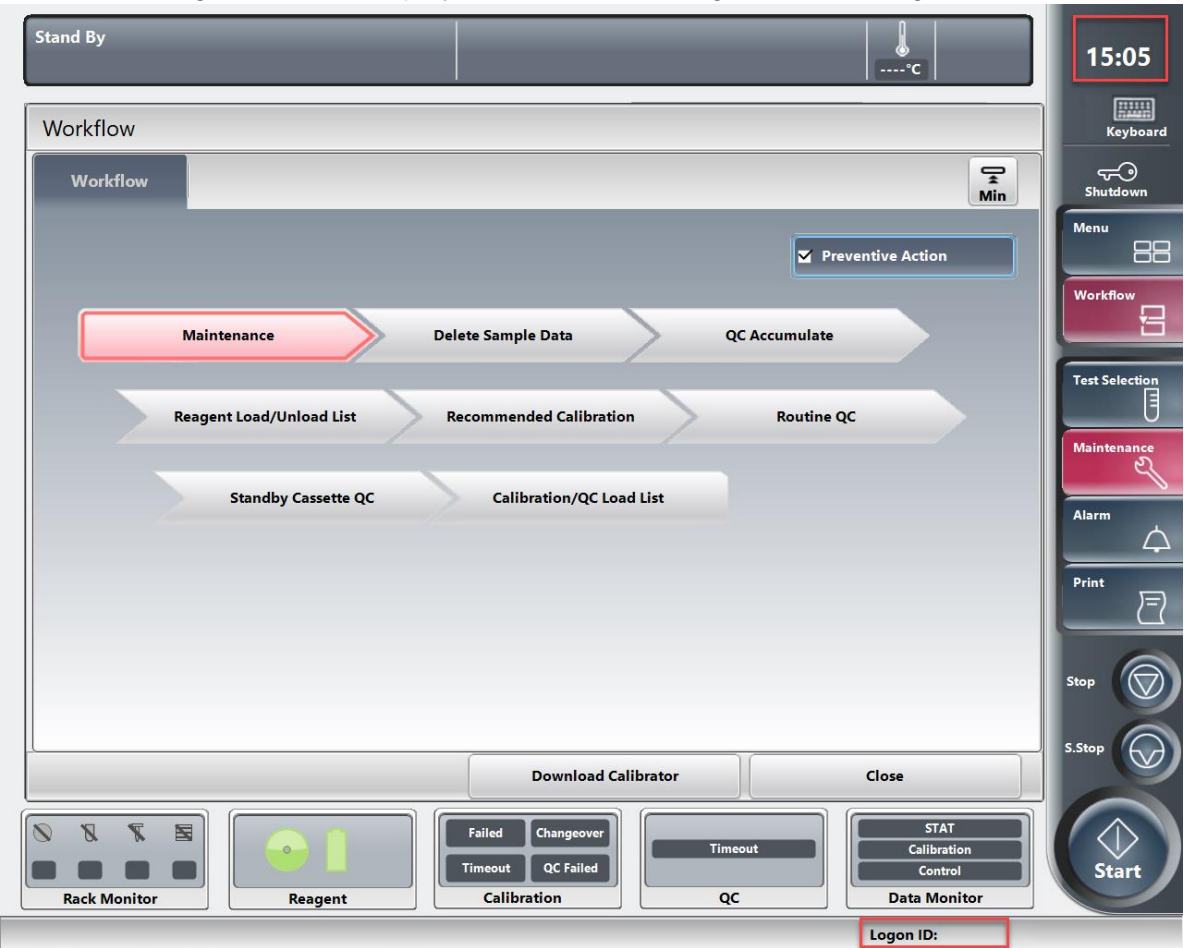

Figure 1: Date and Logon ID (in the red rectangles) is not displayed on the User Interface
1. Date and Logon ID is not displayed in the red rectangles shown in figure 1.
Check if the date is displayed in the red rectangle shown in figure 1 before you click on the start button or at minimum on a daily basis. Whenever the date is not displayed, the software limitation has occurred on this instrument.